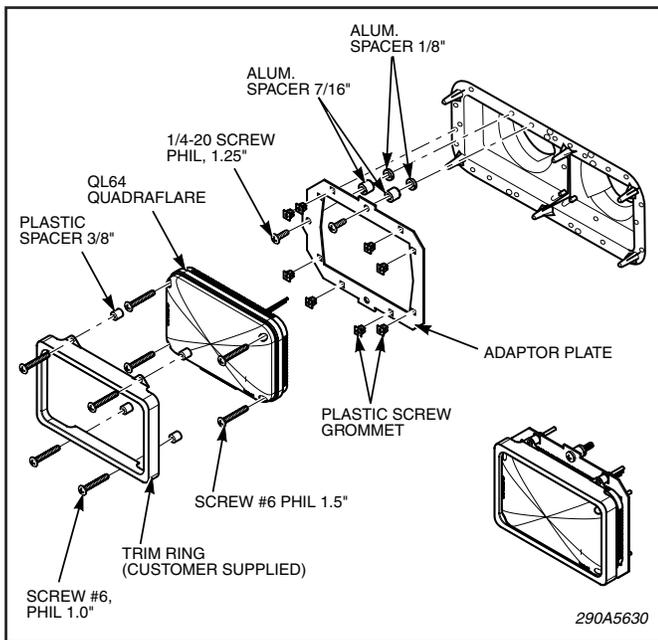

Figure 2.
5. See figure 2. Install the QL64MHL plate on the light bezel using the two 1/4-20 x 1-1/4" screws and 4 aluminum spacers as shown.
7. See figure 2. Install the QL64 light on the QL64MHL adaptor plate using the four 1-1/2" s.s. screws (supplied with the QL64) and four nylon nut grommets.
8. Secure the headlight trim ring to the QL64MHL adaptor plate using four 1" s.s. screws, four nylon spacers, and four nylon nut grommets as shown in figure 2.